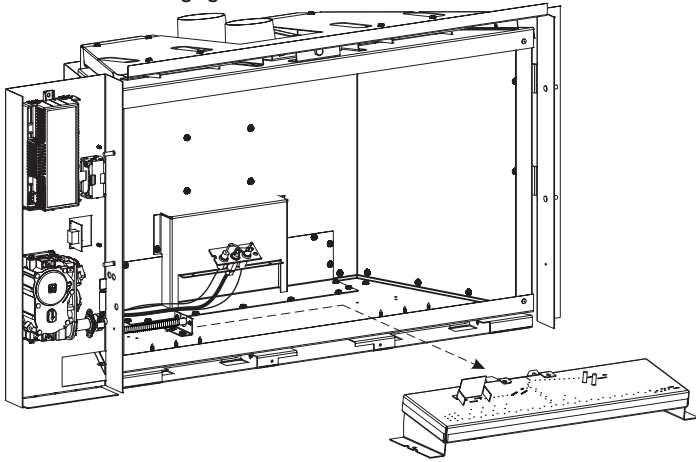

Figure 40
14. Slide the burner to the right and lift out. **See Figure 40.**